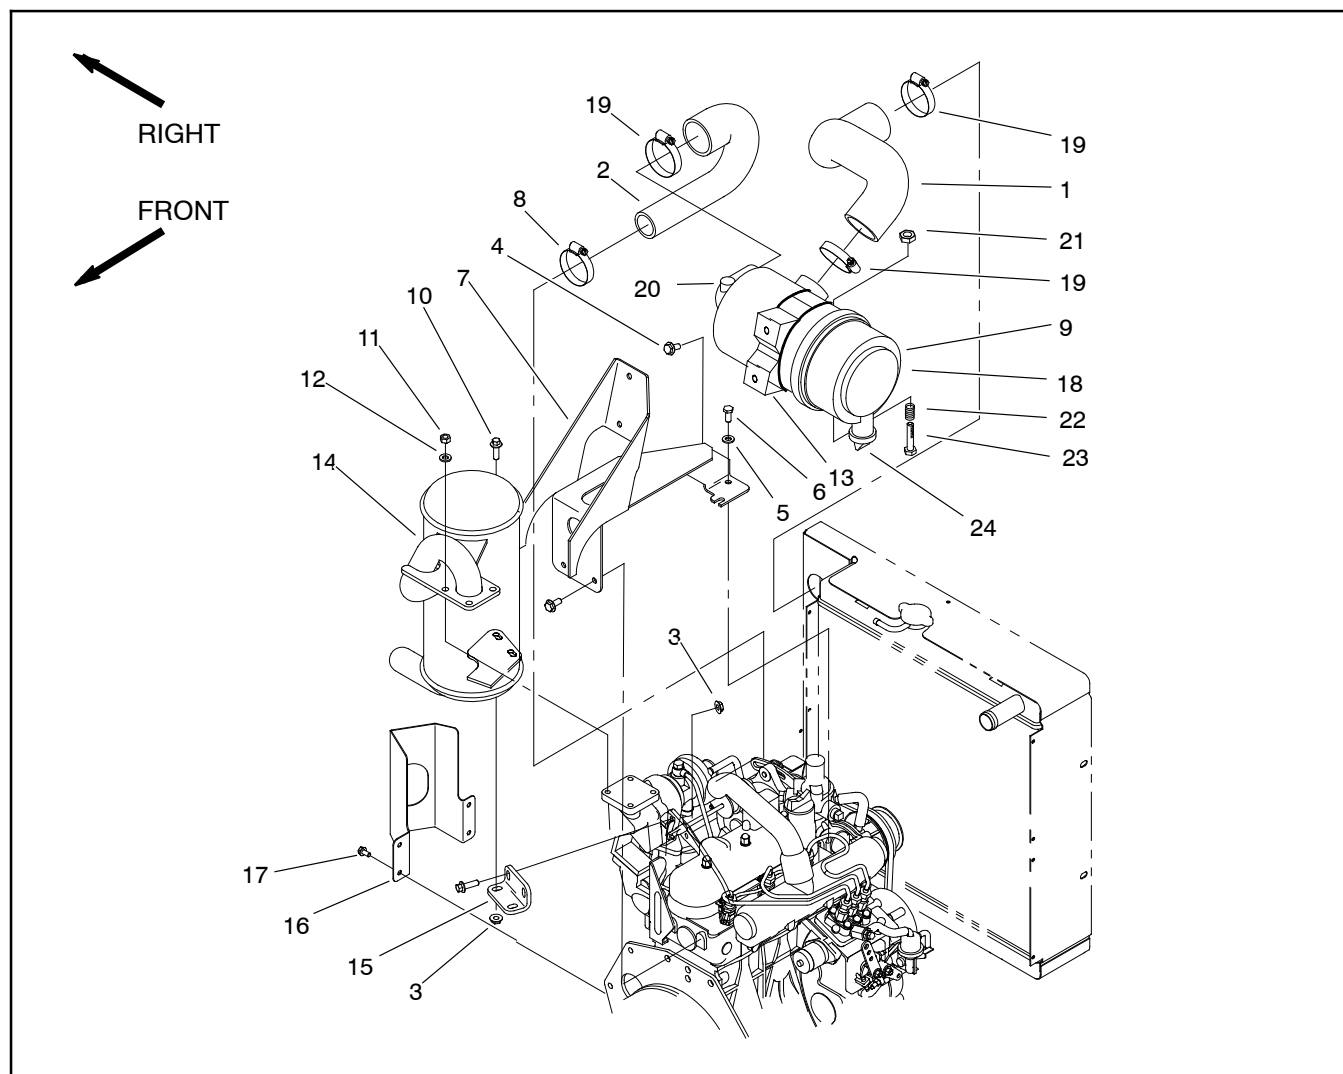

Figure 11
Muffler Removal (Fig. 11)
Muffler Installation (Fig. 11)
Air Cleaner Removal (Fig. 11)
2. Remove air cleaner components as needed using Figure 11 as a guide.
Air Cleaner Installation (Fig. 11)
1. Assemble air cleaner system using Figure 11 as a guide.